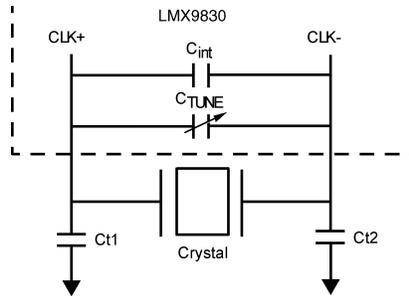
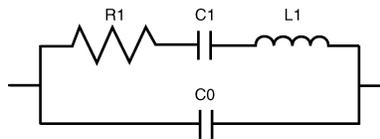

Figure 12. LMX9830 Crystal Recommended Circuit
Figure 13. Crystal Equivalent Circuit
1. Load Capacitance For resonance at the correct frequency, the crystal should be loaded with its specified load capacitance, which is the value of capacitance used in conjunction with the crystal unit. Load capacitance is a parameter specified by the crystal, typically expressed in pF. The crystal circuit shown in Figure 13 is composed of:
The LMX9830 provides some of the load with internal capacitors C_{int} . The remainder must come from the external capacitors and tuning capacitors labeled Ct1 and Ct2 as shown in Figure 12. Ct1 and Ct2 should have the same the value for best noise performance. The LMX9830 has an additional internal capacitance CTUNE of 2.6pF. Crystal load capacitance (C_L) is calculated as the following: $C_L = C_{int} + C_{TUNE} + Ct1/Ct2$ The C_L above does not include the crystal internal self-capacitance C_0 as shown in Figure 13, so the total capacitance is: $C_{total} = C_L + C_0$ Based on crystal spec and equation: $C_L = C_{int} + C_{TUNE} + Ct1/Ct2$ $C_L = 8pF + 2.6pF + 6pF = 16.6pF$ 16.6pF is very close to the TEW crystal requirement of 16pF load capacitance. With the internal shunt capacitance Ctotal: $C_{total} = 16.6pF + 5pF = 21.6pF$